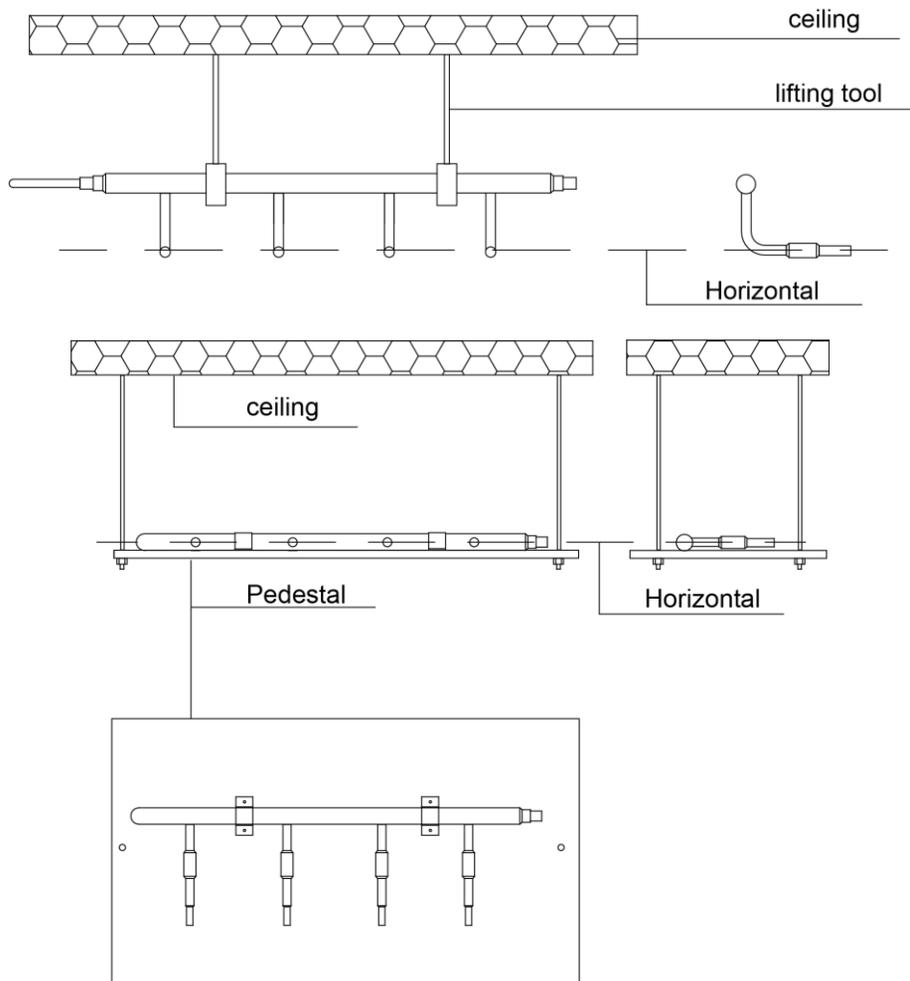

Fig. 4.3.7
- (4) Suspend the header to the ceiling ,and be sure to install the T-type manifold so that the outlet pipes are horizontal at the lower side. See Fig. 4.3.7.